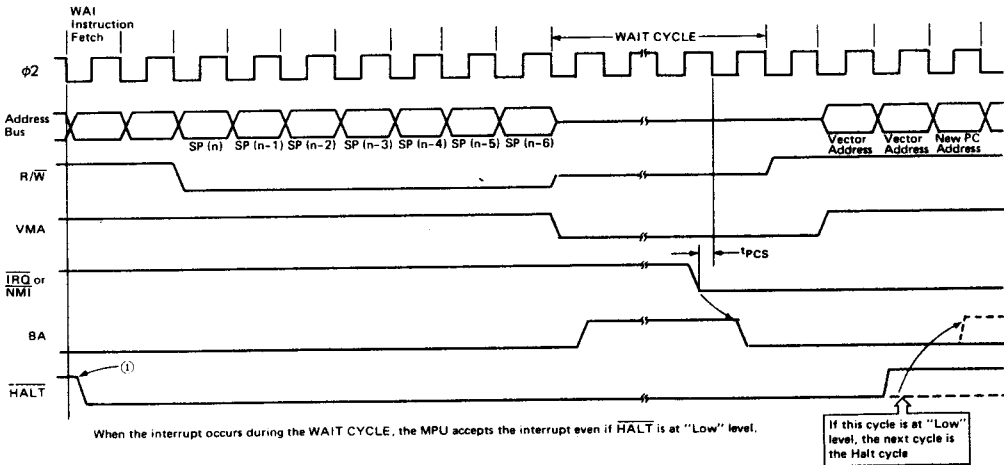

Figure 39 HD6800 WAIT CYCLE & $\overline{\text{HALT}}$ Request
The "Halt" signal is not accepted after the fetch cycle of the WAI instruction (See ① in Fig. 39). In the case of the "WAI" instruction, the MPU enters the "WAIT" cycle after stacking the internal registers and